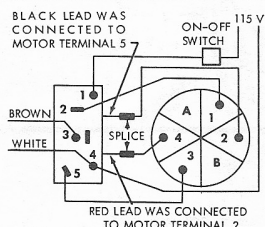
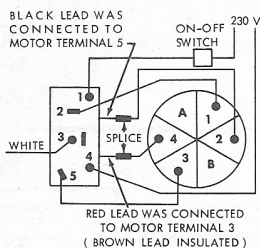

Figure 7
Figure 8
8. The motor may be operated with a reversing switch (9M2982 in catalog), provided connections are made as shown in figure 7 for 115-volt operation and figure 8 for 230-volt operation. The motor must come to a complete stop before reversing can be accomplished. If motor rotation does not correspond to switch notations, interchange switch leads 2 and 4.
IMPORTANT: In order to use this reversing switch with this motor, an additional "ON-OFF" switch must be connected into the ungrounded supply line. (See figures 7 and 8.) This "ON-OFF" switch must be in the "OFF" position before motor rotation can be changed by the reversing switch. The "OFF" position of the reversing switch WILL NOT turn the power off and should be disregarded.